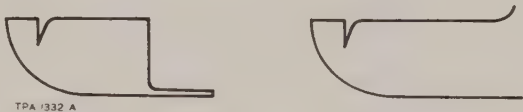

Fig. 5.27 Optimize blanking transient characteristics
(1) Set the front panel controls as in Sect. 5.7.2, except for the RATIO switch at 1:1. Connect the detector to the VIDEO OUTPUT socket, and the output of the detector loaded with 75 Ω to the oscilloscope vertical input. Connect the oscilloscope horizontal input to the X-drive output socket.
(2) Observe the display on the right of the graticule, which may take one of the two forms shown in Fig. 5.27, and check that adjustment of the OPTIMIZE BLANKING TRANSIENT control will achieve a flat response over the full sweep range.